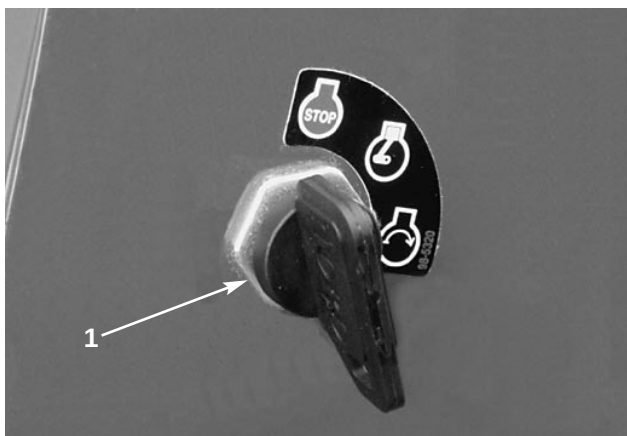

Figure 9
**Ignition Switch** (Fig. 9)—The ignition switch, used to start and stop the engine, has three positions: OFF, RUN and START. Turn the key clockwise—START position—to engage the starter. Release the key when the engine starts. The key will move automatically to ON. To shut off the engine, turn the key counterclockwise to OFF.